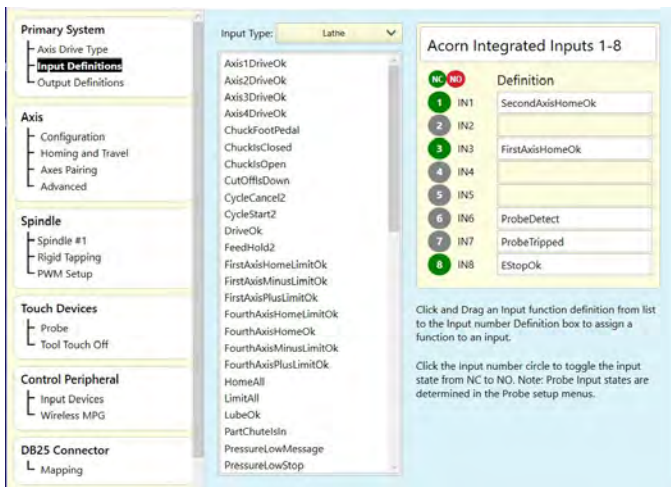

FIGURE 5
A. Click on “Input Definitions”. Then from the Lathe list drag “Probe Detect” to IN6 and “Probe Tripped” to IN7 (see Figure 5).